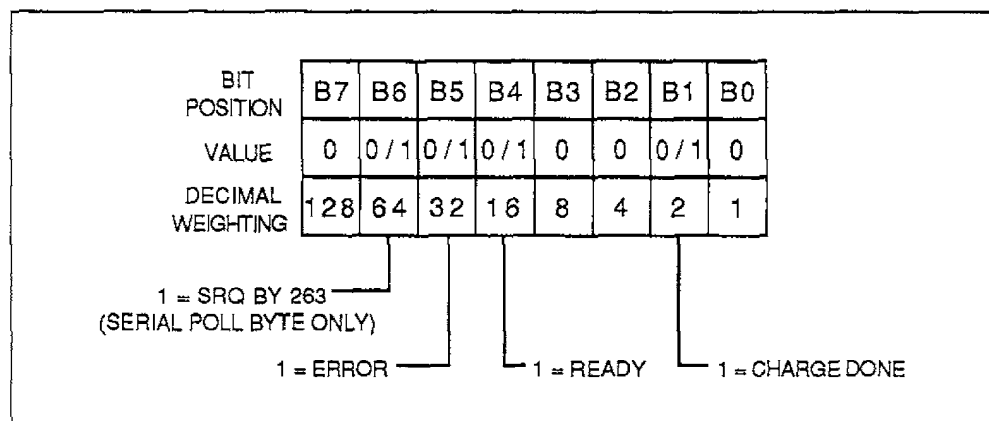

Figure 4-7. SRQ Mask and Serial Poll Byte Format
**Description** SRQ Mask--The Model 263 uses an internal mask to determine which conditions will cause an SRQ to be generated. Figure 4-7 shows the general format of this mask, which is made up of eight bits. The Model 263 can be programmed to generate an SRQ under one or more of the following conditions:
Serial Poll Byte Format--The serial poll byte contains information relating to data and error conditions within the instrument. The general format of the status byte (which is obtained by using the serial polling sequence, as described in paragraph 4.6.7) is shown in Figure 4-7. Note that the various bits correspond to the bits in the SRQ mask as described above.